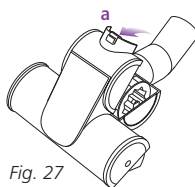

Fig. 27
- 1 Slide the locking latch (a) forward and gently tilt turbo brush housing upward to open. (Fig. 27)